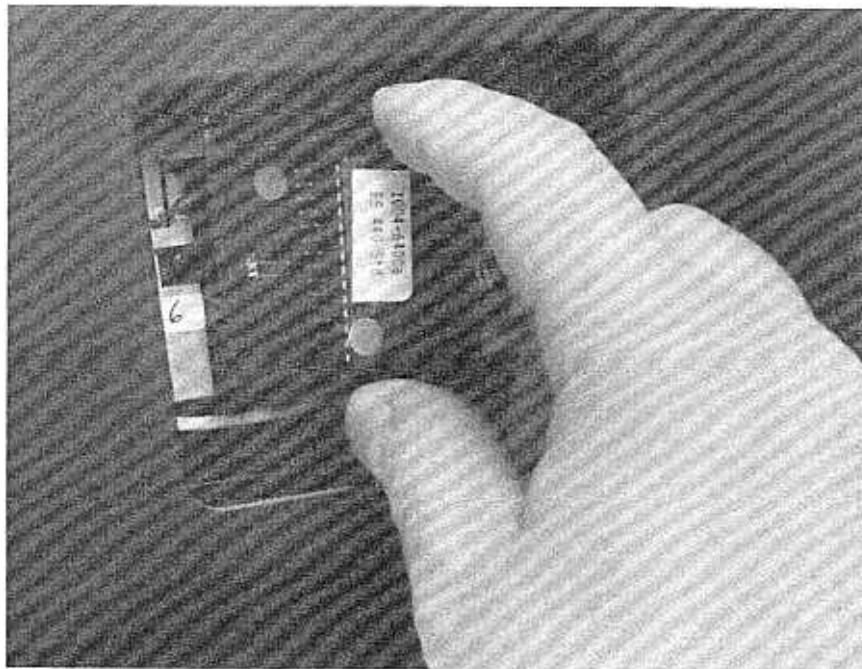

Figure 8
**STEP 3.** The chip(s) may now be removed. Using thumb and forefinger, grasp the tabs at both ends of the chip and pull the chip straight out. The chip fits securely in its socket, and you may have to use a slight rocking motion to remove the chip. See Figure 8.